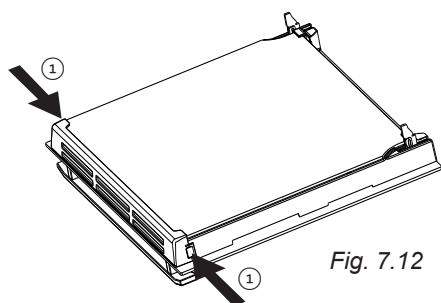

Fig. 7.12
- Touch the glass retainer tabs in on both sides of the door and remove the glass retainer (figs. 7.12, 7.13).